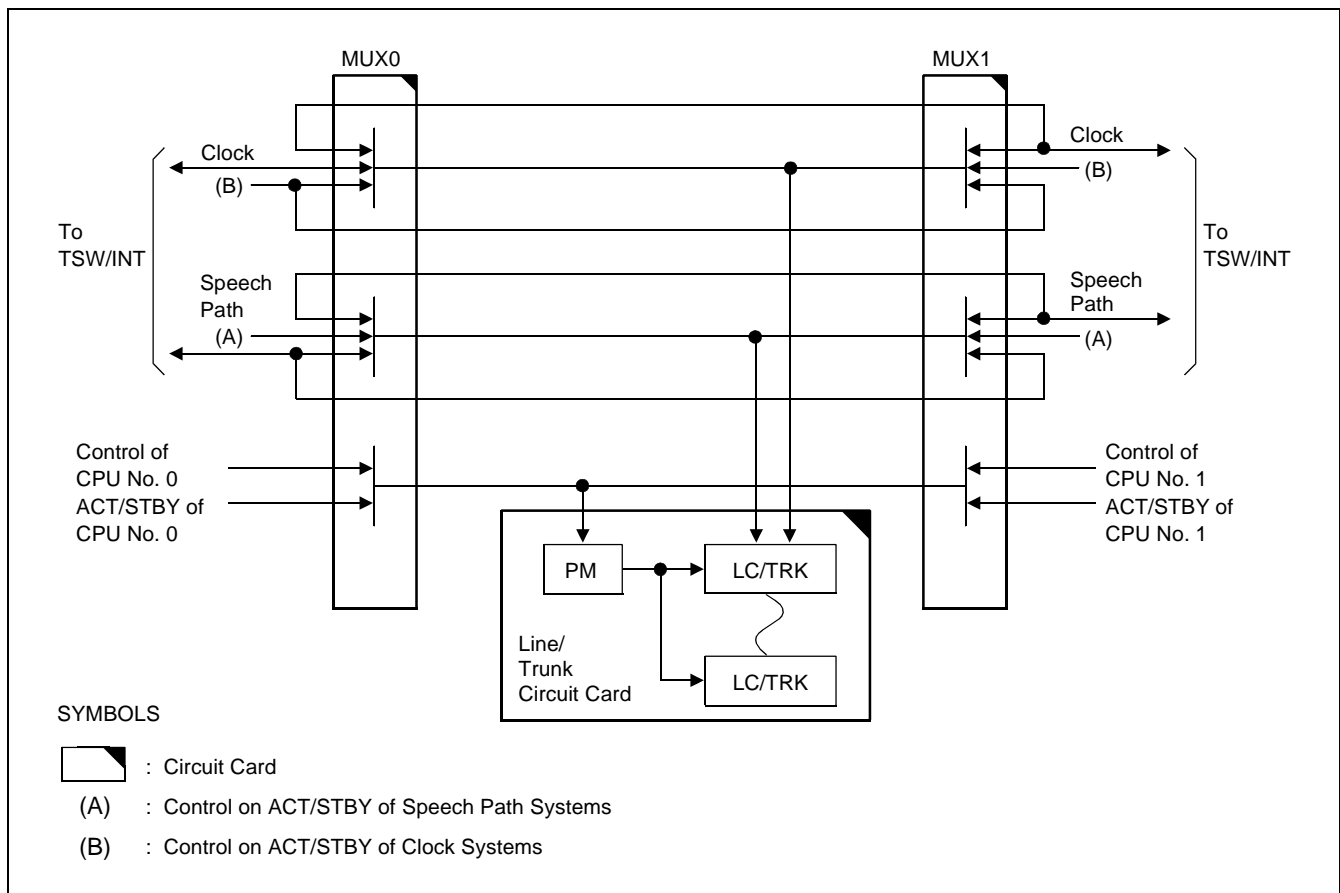
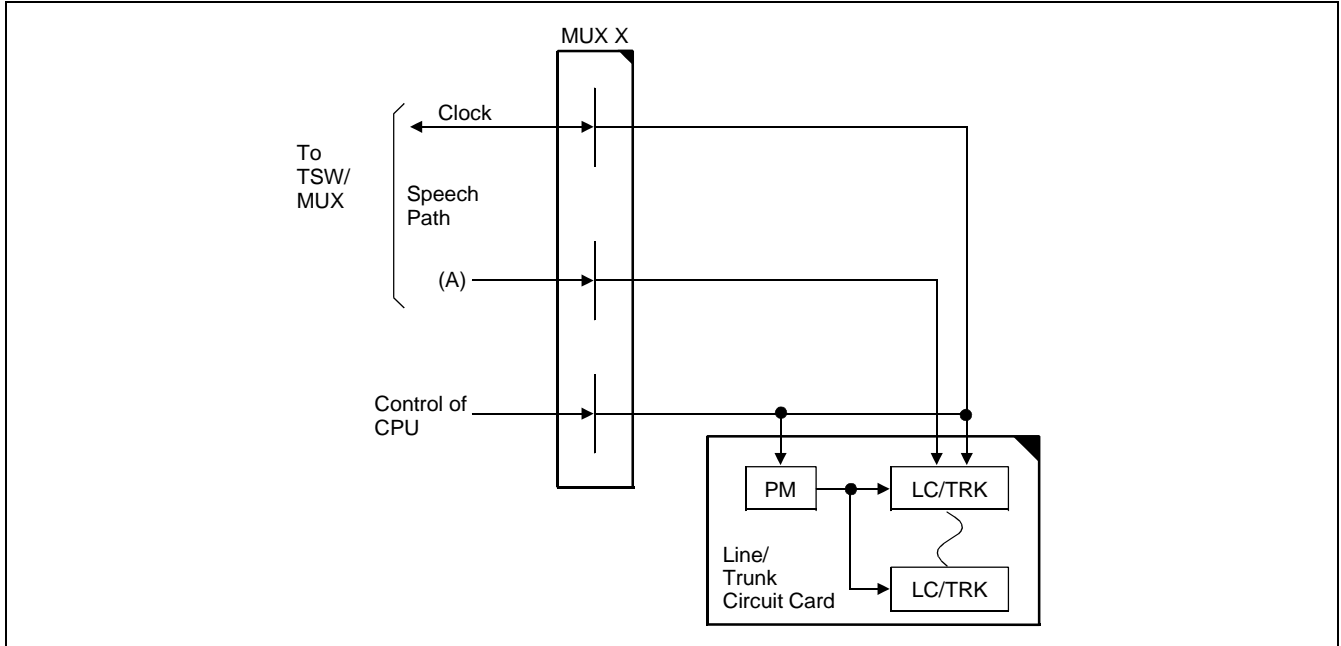

Figure 5-5 Unit Control Block Diagram (Dual Configuration)
Figure 5-6 Unit Control Block Diagram (Single Configuration)
- (1) Speech paths and control paths in the unit are connected to line/trunks via the MUX circuit cards. Be sure to check the alarm lamps on the MUX circuit cards, and check to see if the front cable between each MUX circuit card and TSW circuit card is connected correctly. Figure 5-5 and Figure 5-6 show the block diagram within the unit.